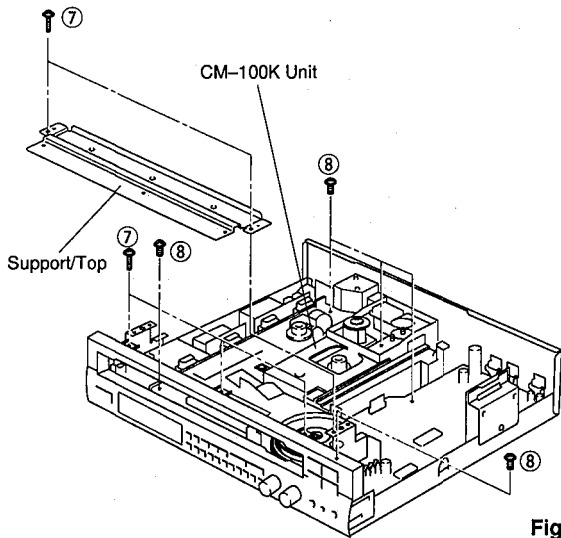

Fig. 3
- a. Remove 5 screw (⑦) and then remove the Support/Top as shown in Fig. 3.
- b. Remove 5 screws (⑧) as shown in Fig. 3.
- d. Take the CM-100K Unit out slowly as shown in Fig. 3.